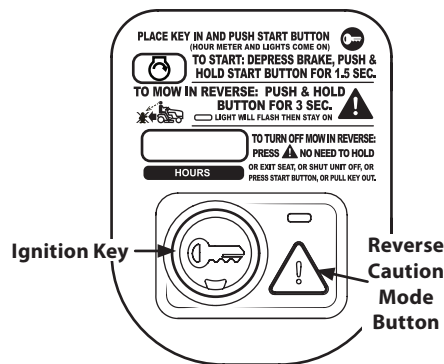

Figure 3-2
2. Press the REVERSE CAUTION MODE  button and hold for 3 seconds. The indicator light will flash for 3 seconds and will stay on when the REVERSE CAUTION MODE  is activated. See Figure 3-2.
3. The indicator light above the REVERSE CAUTION MODE  button will be ON while activated. See Figure 3-2.